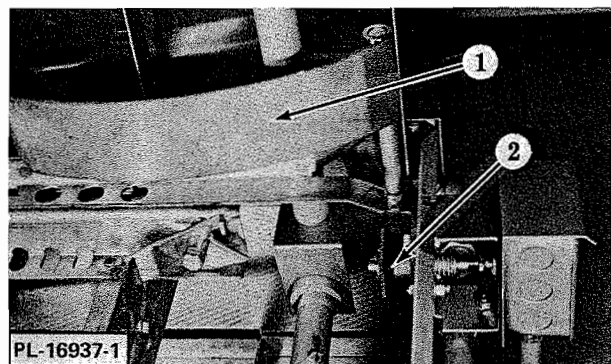

Fig. 12
1. Rinse lever (1, Fig. 12) not moving freely. **DISCONNECT ELECTRICAL POWER SUPPLY(IES) AND PLACE A TAG INDICATING CIRCUIT IS BEING WORKED ON** and check lever for movement.
2. Improper plunger adjustment (2, Fig. 12) or micro switch not operating properly.